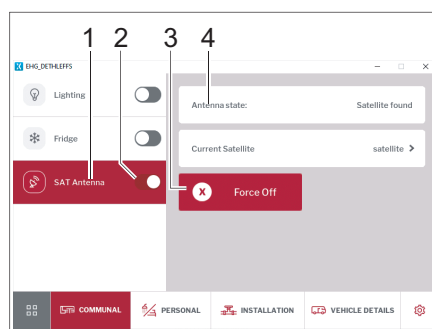

Fig. 283 Satellite unit
- Use the switch to turn the satellite unit (Fig. 283,2) on or off.
- Click on the *SAT unit* (Fig. 283,1) button.
The selected satellite will be displayed (Fig. 283,4).
- Click on the *Emergency Stop* (Fig. 283,3) button, if the unit is driving against resistance.